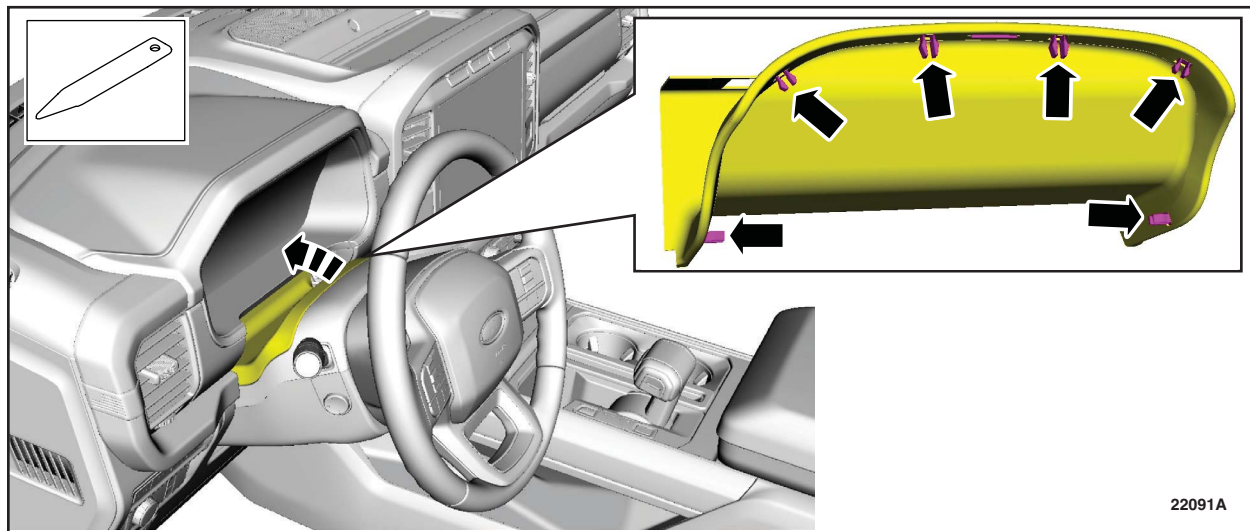

FIGURE 1
2. Release the tabs and disconnect the gap hider from the upper steering column shroud. See Figure 1.
**NO** - Passes secondary inspection. Reinstall the gap hider by reversing the removal procedure. See Figure 1. No further action is required. The Safety recall is complete.